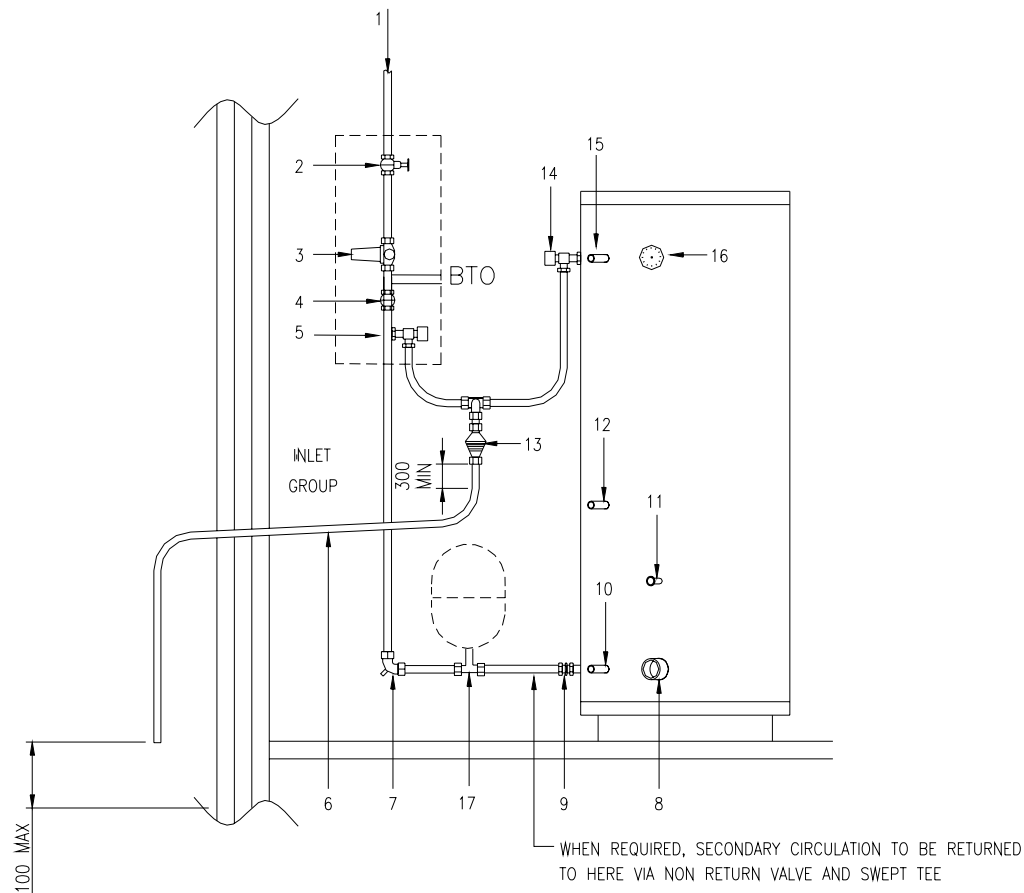

Fig 4
6.1. - Connections. Secondary circuit connections **MUST** be made to the cylinder in accordance with Fig 1 and Fig 4. A drain cock (not supplied) should be fitted in the position shown in Fig 4 to facilitate draining of the cylinder.
6.5. - Pressure reducing valve – Taking due account of the directional arrow, fit the pressure reducing valve (PRV) in accordance with Fig 4. This can be connected to a cold supply with a maximum pressure of 12 bar.
6.6. - Expansion relief valve – Fit the expansion relief valve (ERV) in accordance with Fig 4. This valve has been pre-set to lift at 6 bar. No other valve should be fitted between the expansion relief valve and the cylinder.
6.7. - Check valve – Taking due account of the directional arrow, fit the check valve (CV) in accordance with Fig 4.
10.5. Draining the cylinder – When draining the cylinder, always switch off the boiler and the immersion heater first. Turn off the water supply at the stopcock (see Fig 4). Connect a hose pipe to the drain cock (see Fig 4) and route it to a convenient gully. Open the drain cock and all hot taps that are served by the cylinder. The cylinder may take several minutes to empty completely.